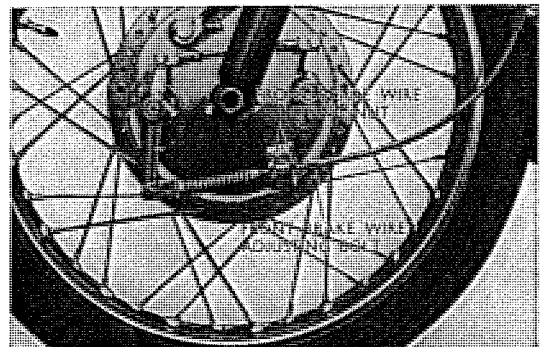

Fig. 4.3 Removing brake cable
2. For disassembling the front brake cable, turn the front brake arm counterclockwise (where the brake is effective), and remove the end of the cable. (Refer to Fig. 4.3)